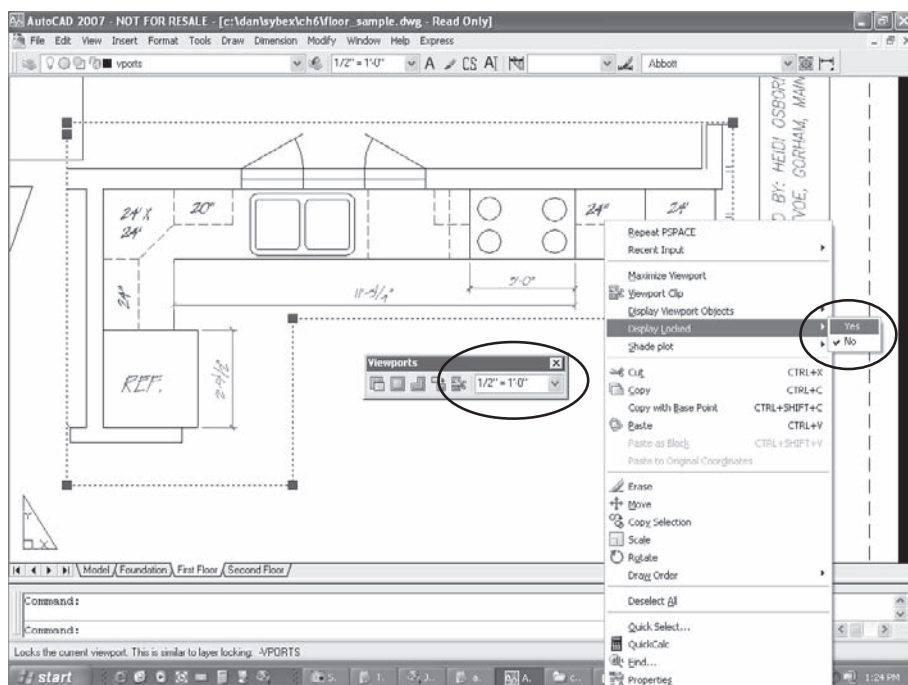

Figure 6.15
13. Once you have the floating viewport display the way you want it, lock the display so you don't change your plot scale accidentally. Otherwise, your dimensions could all have different sizes. You can lock a viewport in Paper Space by selecting the edge of the viewport and right-clicking. (See Figure 6.15.) You can also lock one or more viewports using the Lock option of the MVIEW command.